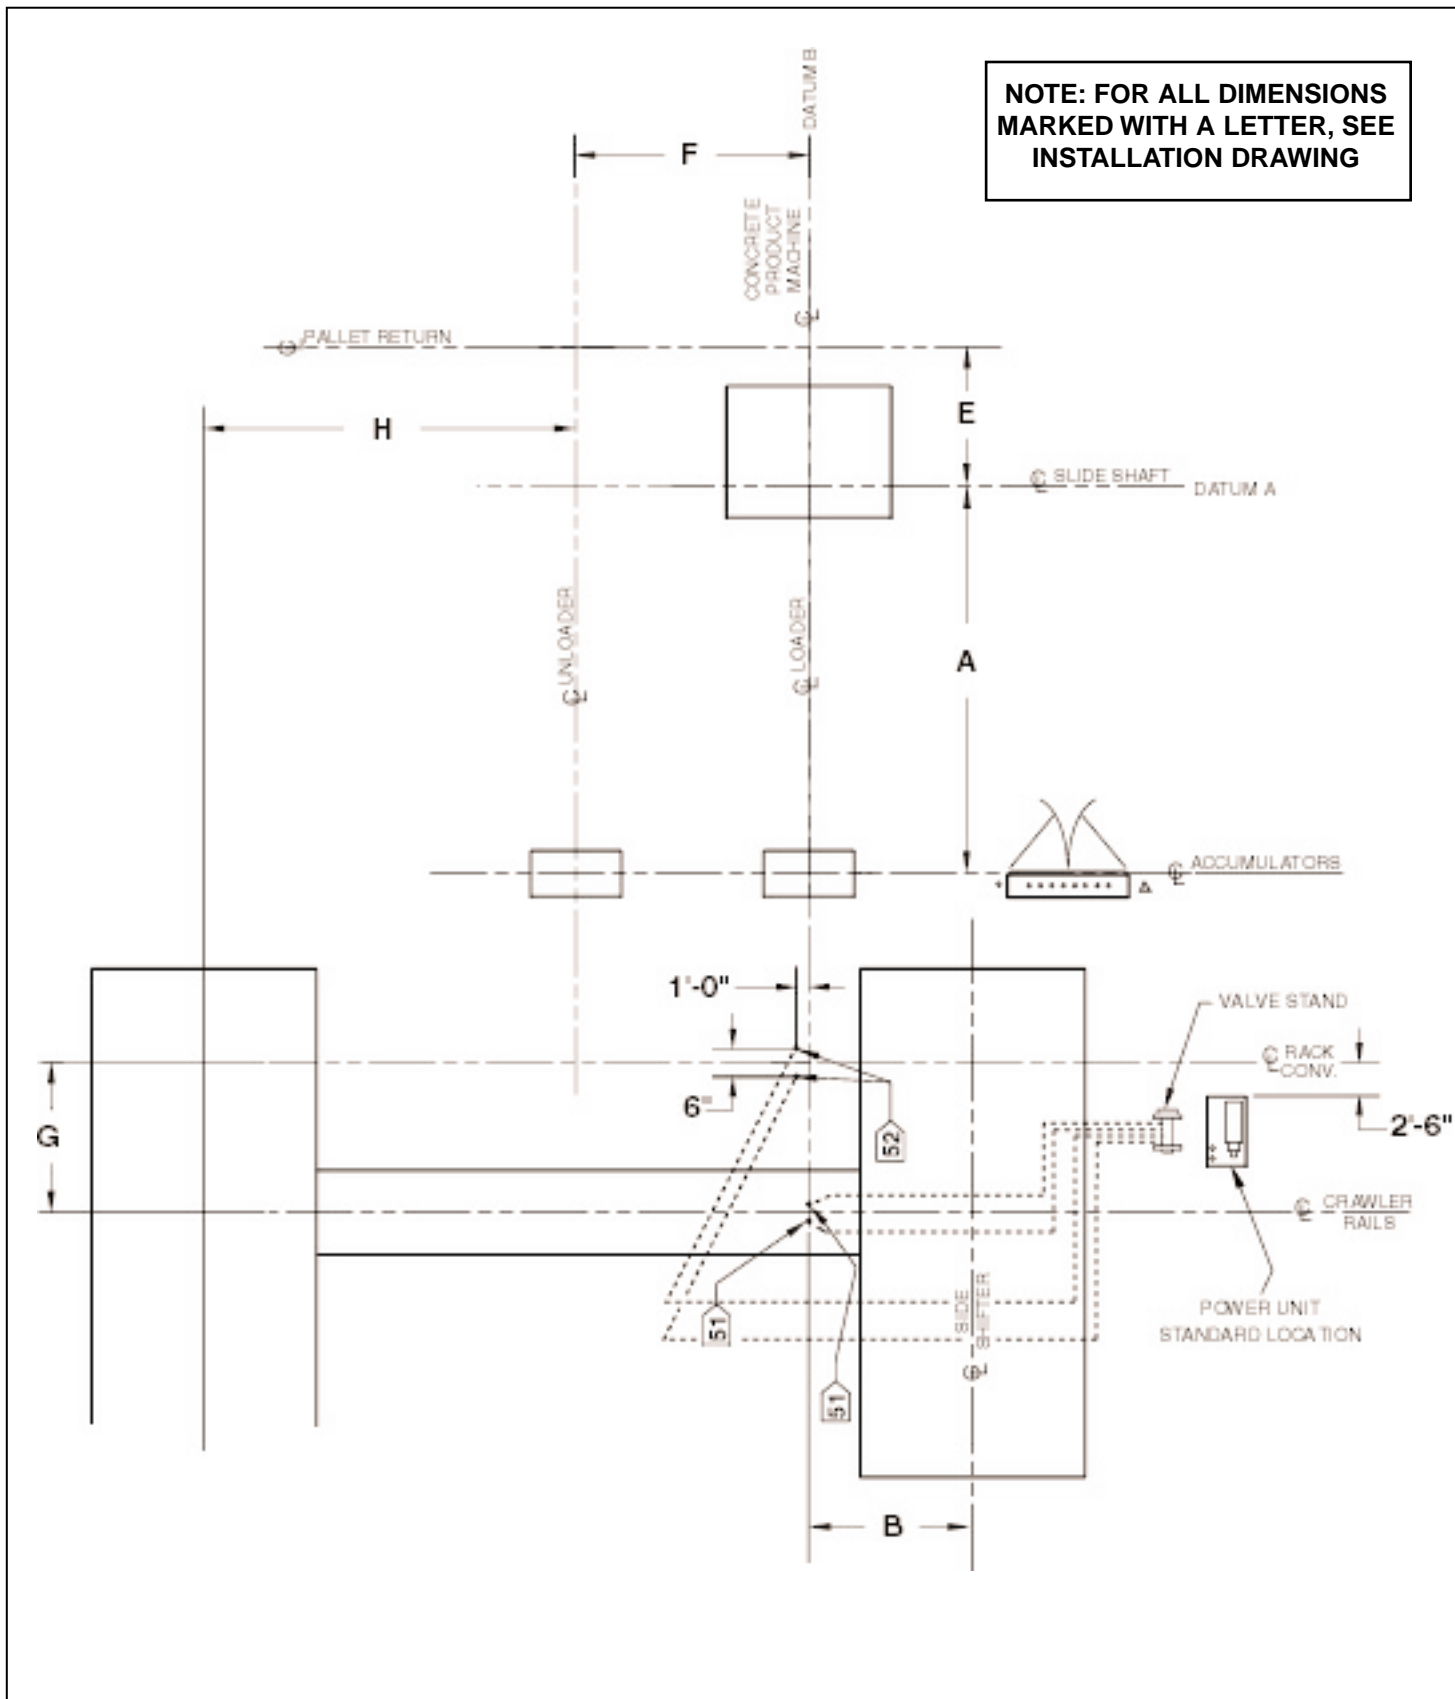
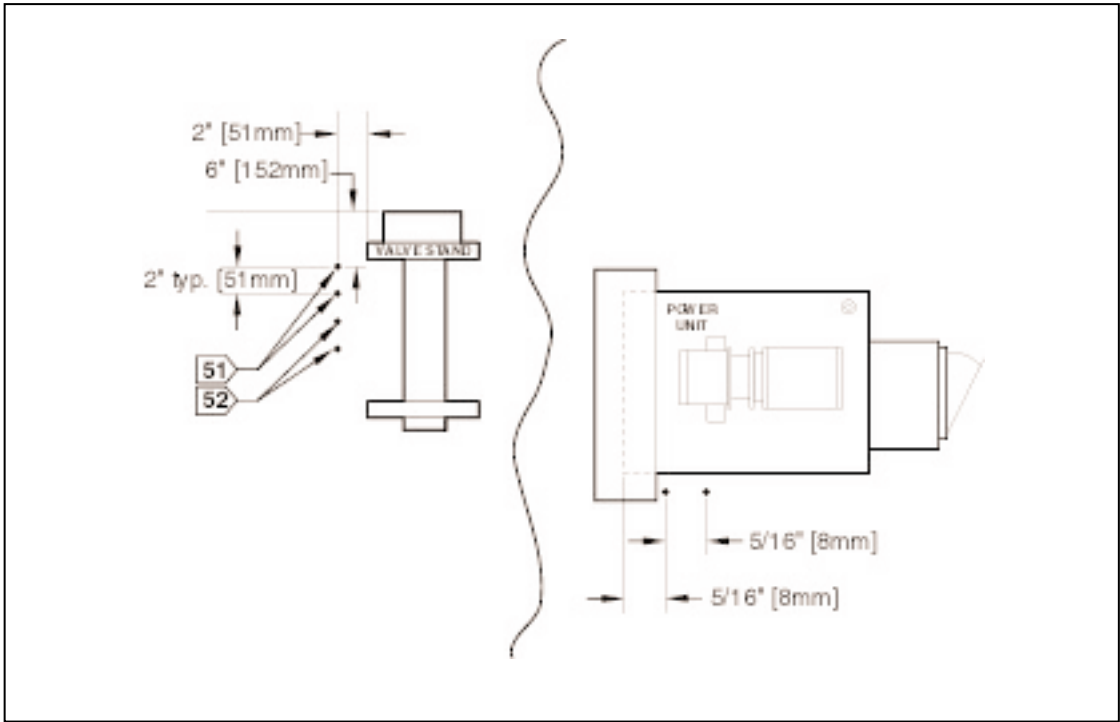

Figure 2.6 MS-10 BESSER-MATIC HYDRAULIC INSTALLATION (ref. installation print sheet 2).
Figure 2.8 REMOTE LOCATION FOR HYDRAULIC VALVE STAND AND 8 G.P.M. POWER UNIT FOR RACK CONVEYOR (SEE INSTALLATION DRAWING FOR LOCATION).
1. Locate position of all hydraulic stub-ups and position of hydraulic power unit. Power unit may be installed in standard location as shown in figures 2.6 and 2.7 or in remote location (see figure 2.8).
- a. All stub-up locations are shown in figure 2.6 and on the BESSER-MATIC installation prints sheet 2.
2. Numbers 51 and 52 below refer to numbers in figures 2.6.